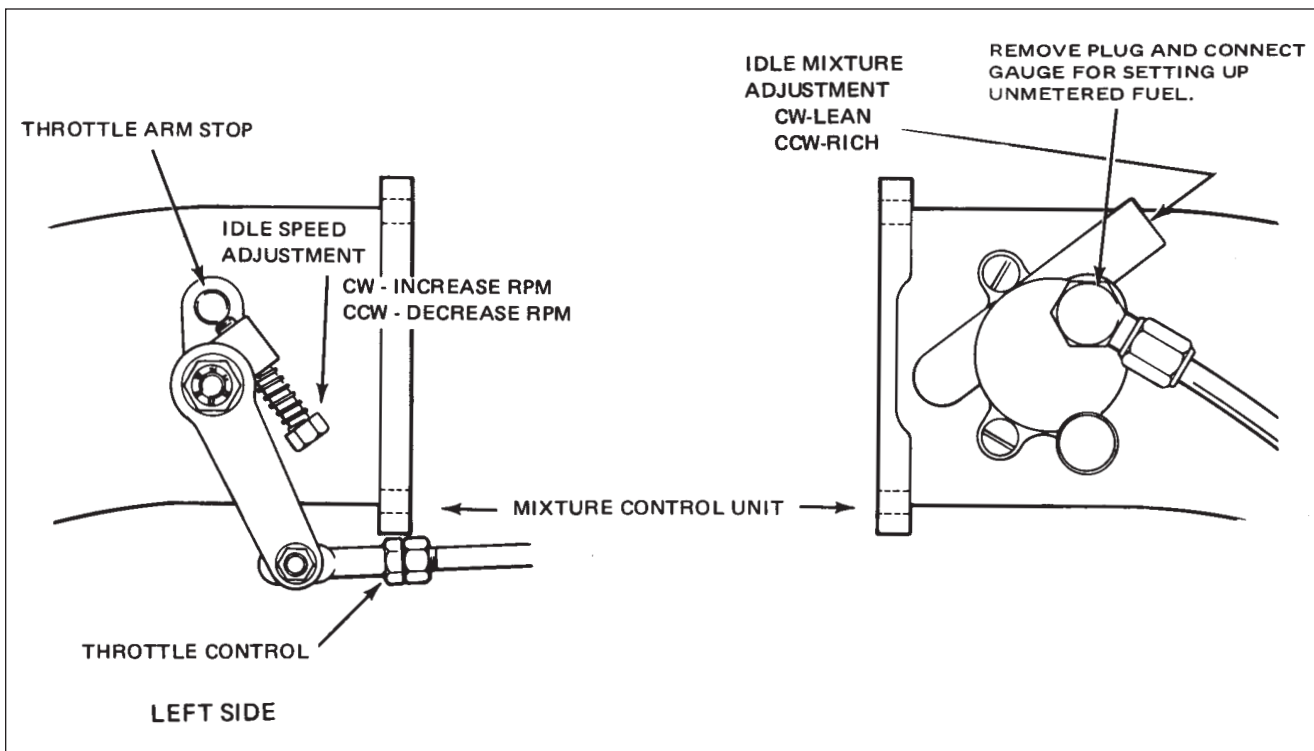

Figure 73-4. Idle Speed and Mixture Adjustment Points
- A. Remove the cap from the tee fitting on the right side of the throttle body. (Refer to Figure 73-4.)
- A. Back off the idle speed adjusting screw two turns. (Refer to Figure 73-4.)
5. Check and Adjustment of Idle Mixture: (Refer to Figure 73-4.)
6. Check and Adjustment of Idle Speed: (Refer to Figure 73-4.)